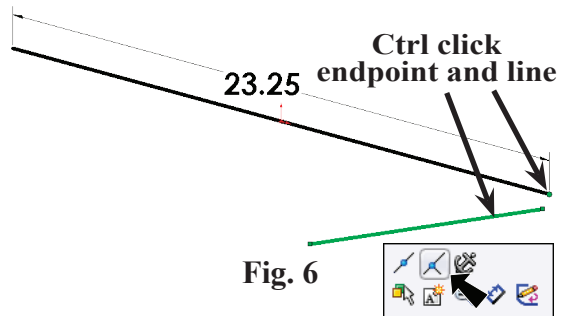
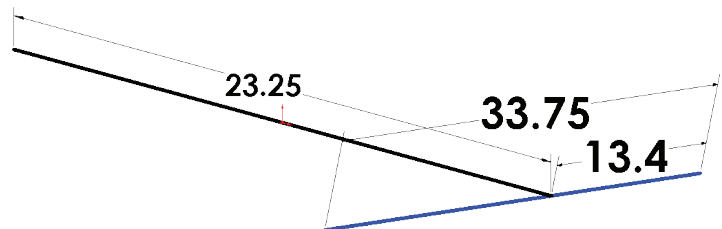
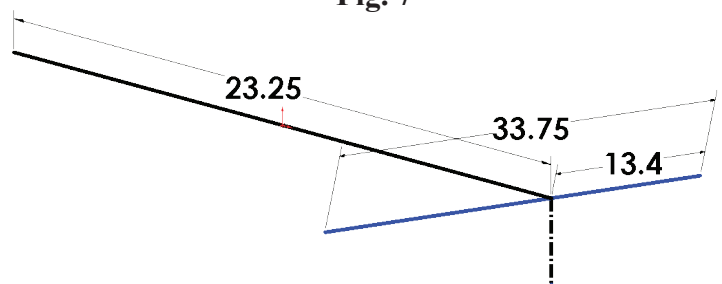
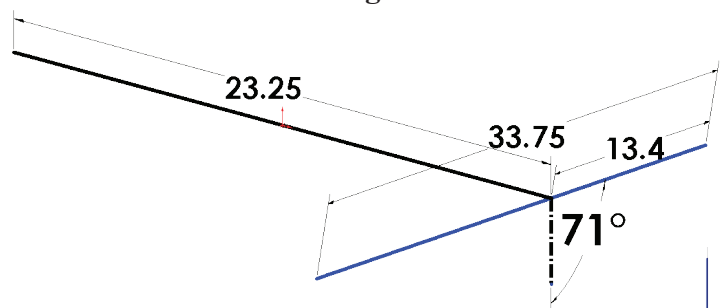

Fig. 6
Fig. 7
Fig. 8
Fig. 9
Step 13. **Ctrl click line and right endpoint of first line. Release Ctrl key and click Make Coincident**  on the Content menu, **Fig. 6**.
Step 14. Click **Smart Dimension**  (S) on the Sketch toolbar.
Step 15. Dimension the **33.75** first, then **13.4**, **Fig. 7**.
Step 16. Click **Centerline**  in the **Line flyout**  (S) on the Sketch toolbar.
Step 17. Draw **vertical centerline down from intersecting lines**, **Fig. 8**. Keep line vertical or on the Y axis
Step 18. Click **Smart Dimension**  (S) on the Sketch toolbar.
Step 19. Dimension angle **71 degrees**, **Fig. 9**.